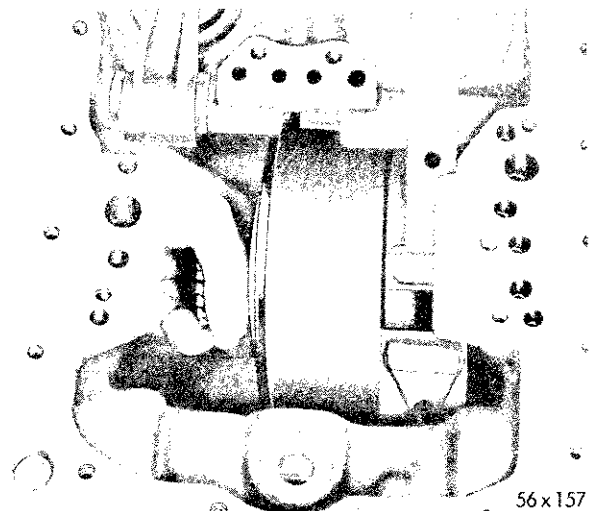

Fig. 21—Removing or Installing Direct Clutch Assembly
(4) To remove the direct clutch assembly, loosen kickdown band adjusting screw locknut and back off adjusting screw sufficiently to provide clearance for removal of clutch retainer. Remove the direct clutch assembly from the reaction shaft, as shown in Figure 21. Wrap towel around sun gear to protect hands. Be sure to remove direct clutch retainer thrust washer (fiber) from reaction shaft.